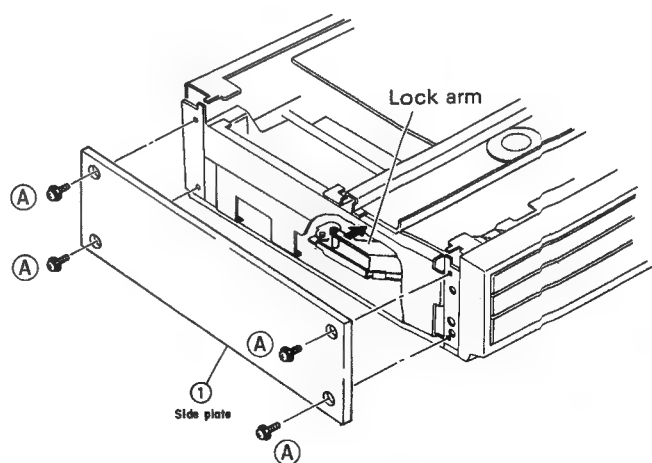

Fig. 7-11
7.8 HOW TO RELEASE THE AUTO LOCK MECHANISM (Fig. 7-11)
- ① Remove the four screws (A) to remove the side panel (L).
- ② Press the lock arm in the direction of the arrow to release the auto lock mechanism.